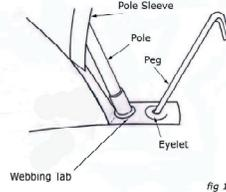

fig 1
4. Starting with either pole, insert one end into the eyelet in the webbing tab at the base of and nearest to the inner tent (the other is always for the peg) and repeat with the other end by grasping the opposite webbing tab firmly and pushing the pole through the sleeve (see figure 1). As you do so the pole sleeves must be eased over the poles, especially over the metal joints or ferrules. Repeat with the other pole and where they cross there is a fabric tie; tie this with a bow around the two poles.